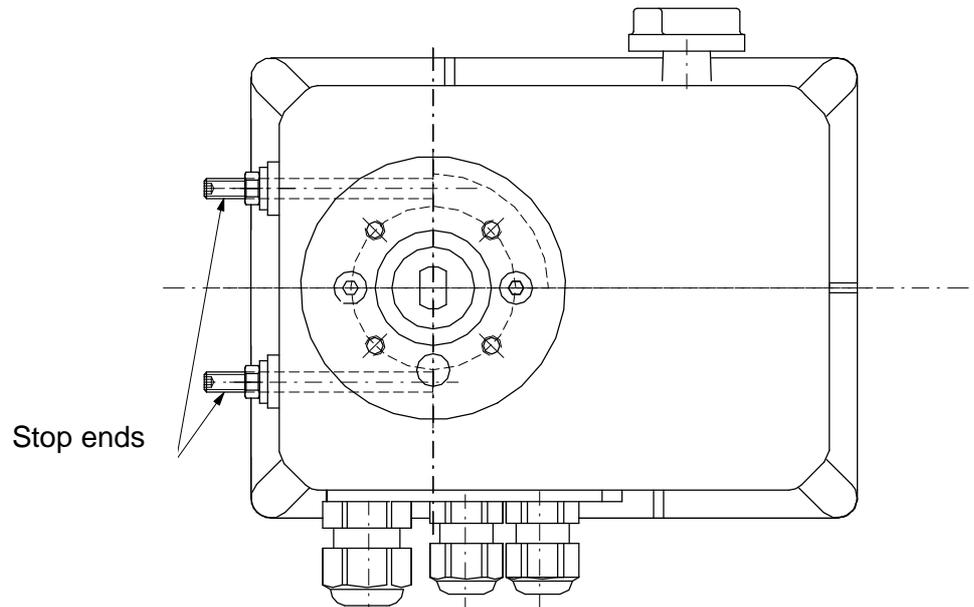

Fig.8: Flange of actuator from bottom.
3.8 Adjusting of stop ends (Fig.8)